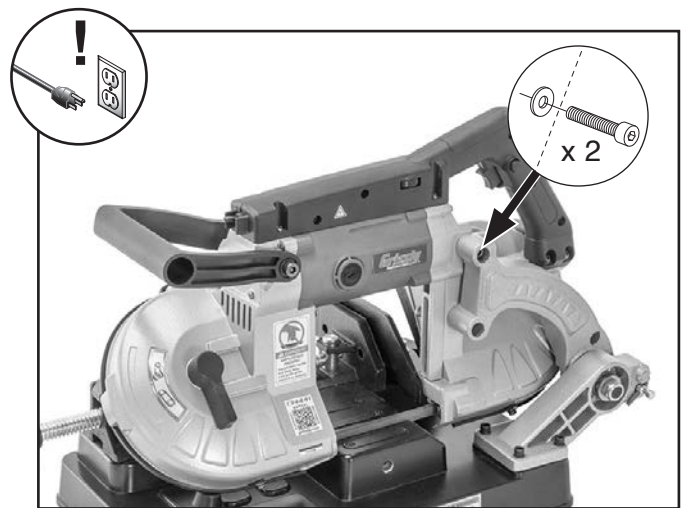

Figure 12. Location of bandsaw mounting fasteners.
3. Remove (2) cap screws and flat washers shown in **Figure 12** to remove bandsaw from stand.
3. Attach bandsaw to stand with (2) M8-1.25 x 25 cap screws and 8mm flat washers (see **Figure 12**).